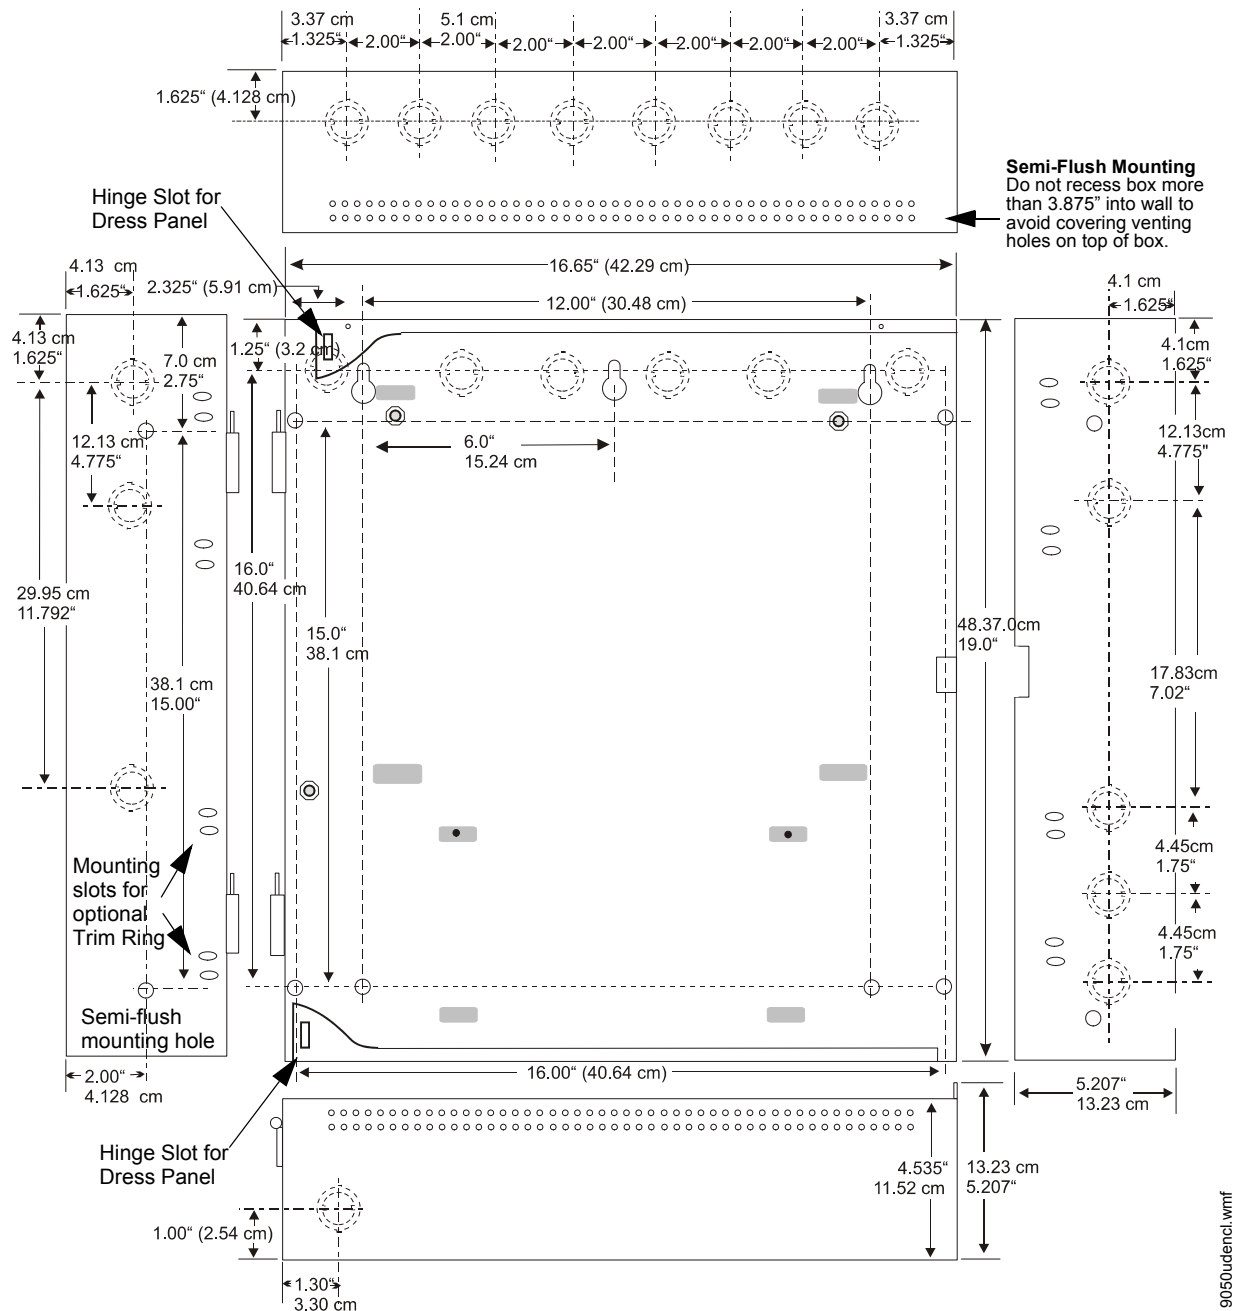

Figure 2.2 Cabinet Dimensions & Knockout Locations
5. Mark and predrill hole in the wall for the center top keyhole mounting bolt using the dimensions illustrated in Figure 2.2 on page 12.